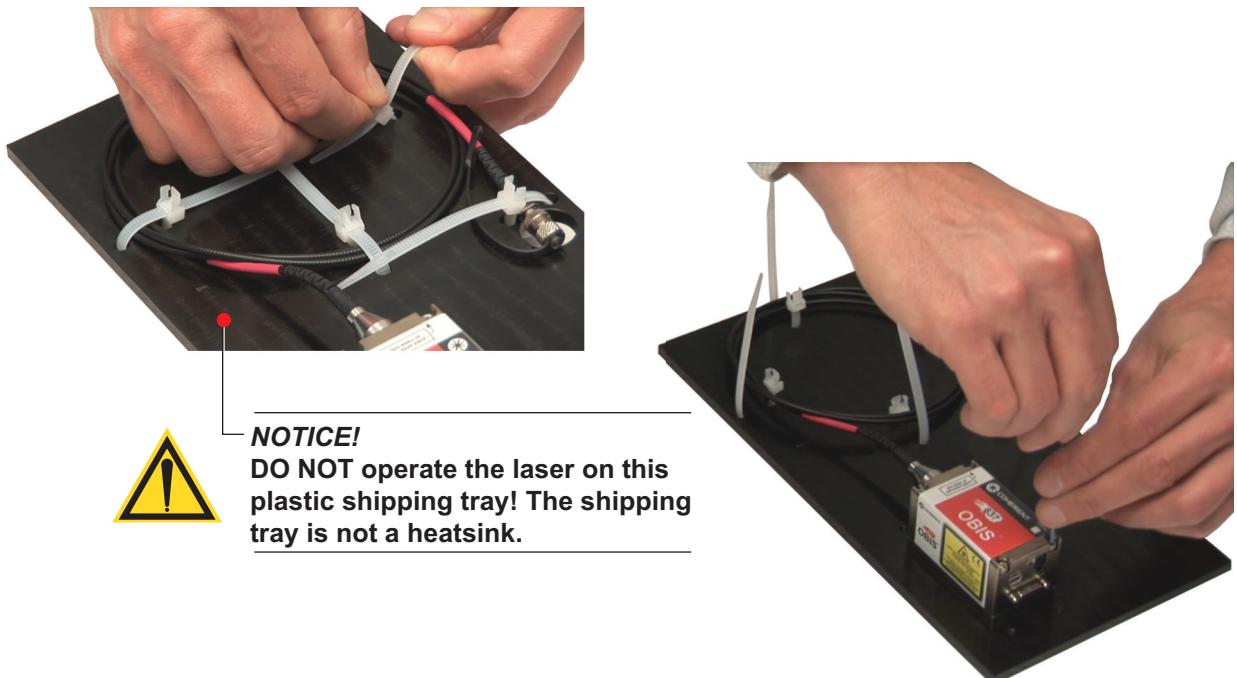

Figure 4-14. OBIS Laser Box: Remove Fiber and Laser from the Shipping Tray
1. Loosen the removable zip ties to release the fiber and then remove the four screws that anchor the laser to the tray, as shown in Figure 4-14.